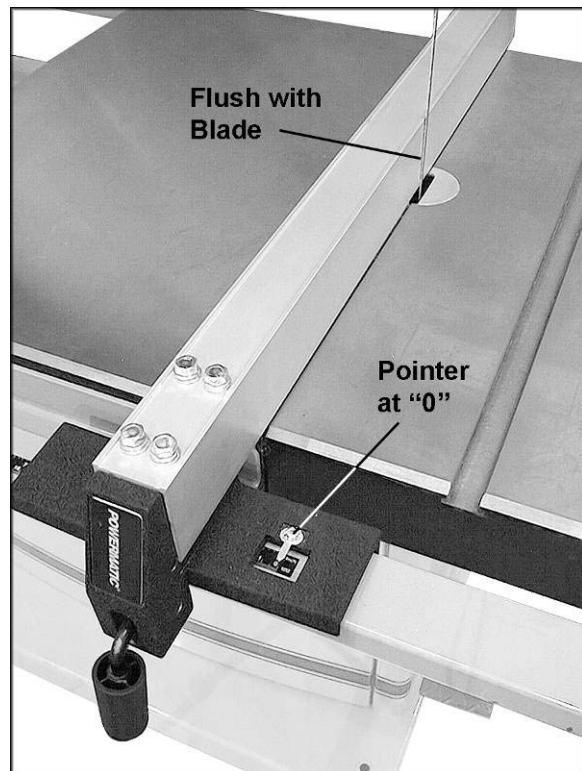

Figure 3
11. Move the fence assembly to the other side of the blade so that the pointer (Figure 3) on the fence body points to "zero" on the scale. Lock the fence by pushing the handle down.
12. Move the guide rail with the locked fence until the fence is flush against the blade. (Do not force the fence into the blade so that the blade bends.) See Figure 3. Do not unlock the fence to perform this. Move the fence and guide rail together when establishing the zero point.